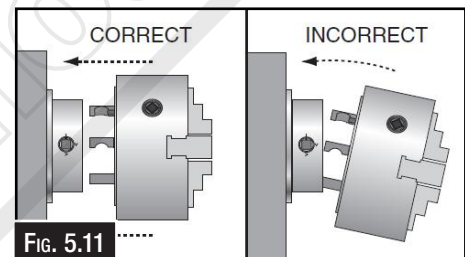

FIG. 5.11
**NOTE: Avoid inserting the studs in from an angle or rotating the spindle. This can damage the studs or the cam holes. (Fig. 5.11)**